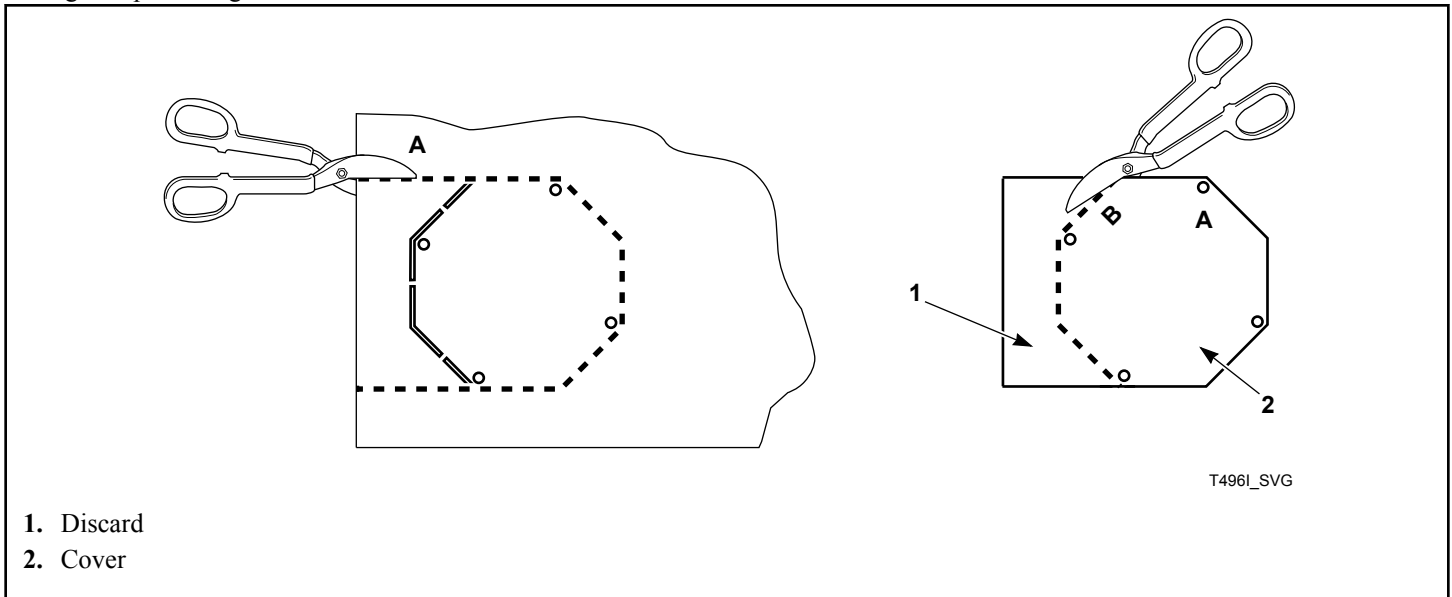

Figure 12
3. Cut out shape from belt guard cover. Refer to *Figure 12*.